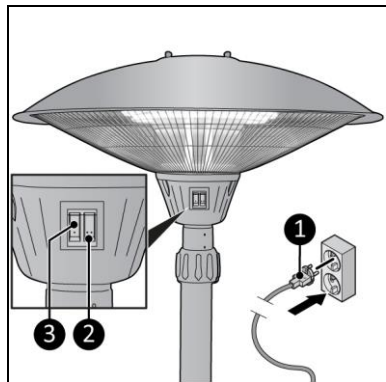

Figure 10
4. Make sure switch I (Figure 10, pos. 3) and switch II (Figure 10, pos.2) are both in the OFF position.
5. Place the power plug (Figure 10, pos. 1) in an earthed wall socket that is easily accessible. Use an earthed wall socket with a minimum power of 2100 Watt.
- low setting: press switch I (Figure 10, pos. 3);
- medium setting: press switch II (Figure 10, pos.2);
- high setting: press switch I (Figure 10, pos. 3) and switch II (Figure 10, pos.2).
1. Make sure the switch I (Figure 10, pos. 3) and the switch II (Figure 10, pos. 2) are in the OFF position.
1. Make sure switch I (Figure 10, pos. 3) and switch II (Figure 10, pos. 2) are in the OFF position.
2. Disconnect the power plug from the power outlet (Figure 10, pos. 1).